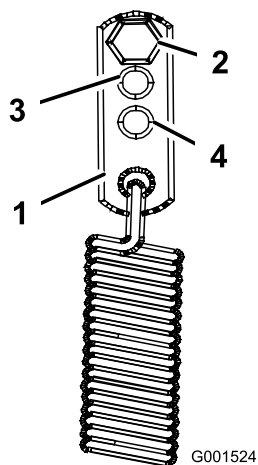

Figure 44
- For a heavier drive setting, relocate the spring anchor links to either the medium or heavy duty positions (Figure 44). The spring anchor links are attached to the upper rear corner of the hydro drive shields on the left and right sides of the machine.
The parking brake lever is on the right side of the machine (Figure 44). If the parking brake does not hold securely, adjust it.